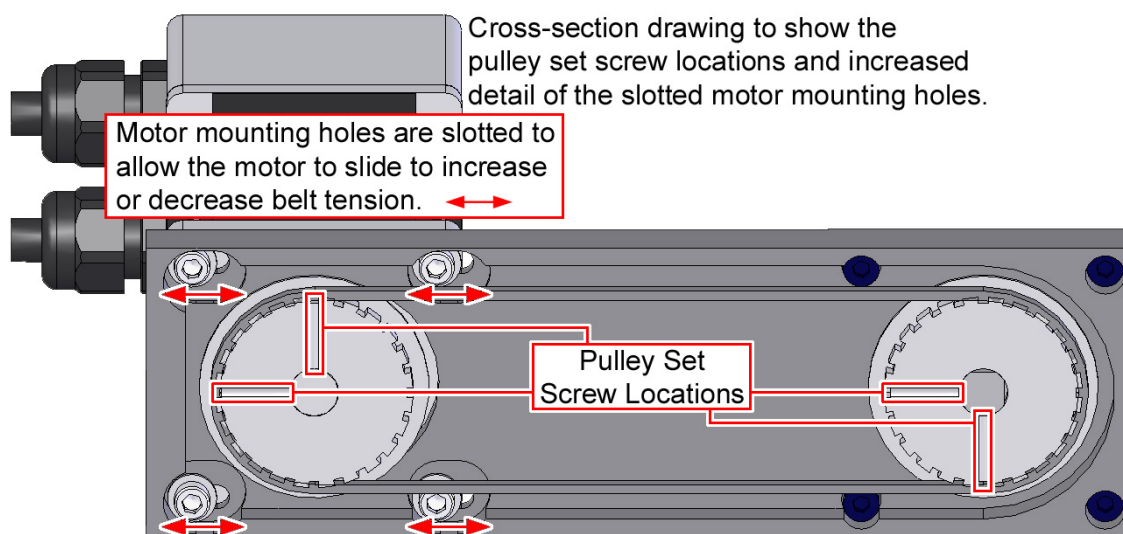

Figure 4-6: Belt Access and Adjustment on Foldback Models (Pulley Set Screws)
5. The motor mounting holes are slotted to allow for belt adjustment (Figure 4-6). With all four screws loose, pull the motor away from the stage by hand until achieving the necessary belt tension.
7. While adjusting tension, it is advisable to verify that the pulleys are tight on their respective shafts. Each pulley is held in position with two set screws (Figure 4-6). If a pulley is loose, it may be necessary to tighten one or both of these screws.